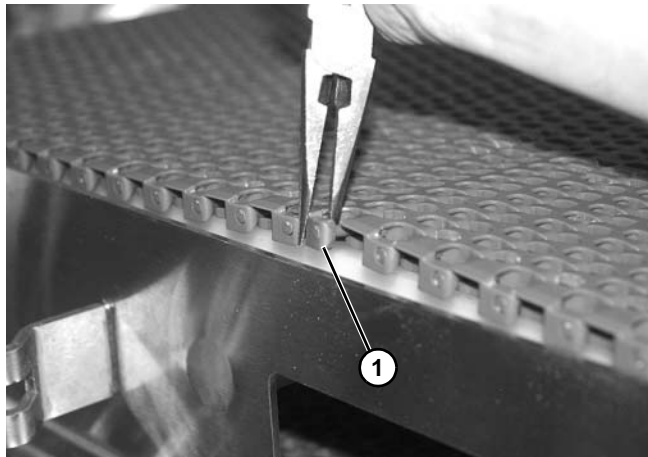
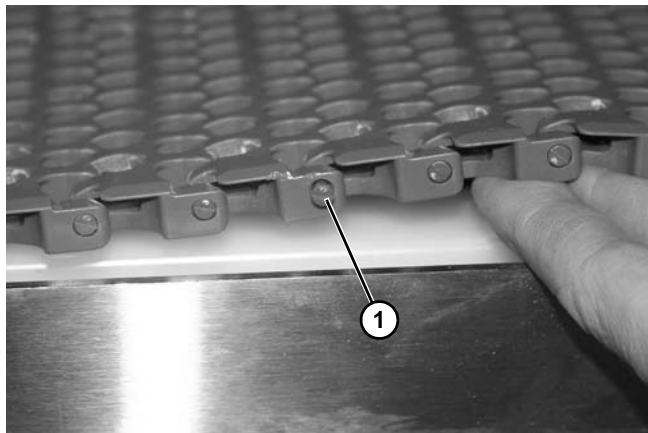

Figure 35
Figure 36
- Carefully use a needle nose pliers to gently twist belt rod connection (**Figure 35, item 1**) to expose the end (**Figure 36, item 1**) of belt rod.